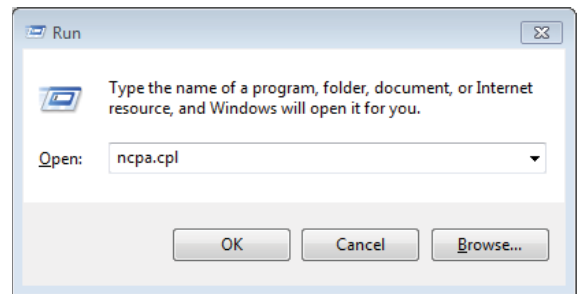

Figure 2. Run Window for Network Connections
3. Open the **Start > Run** window and type **ncpa.cpl** into the text box, then click **OK** (see Figure 2).